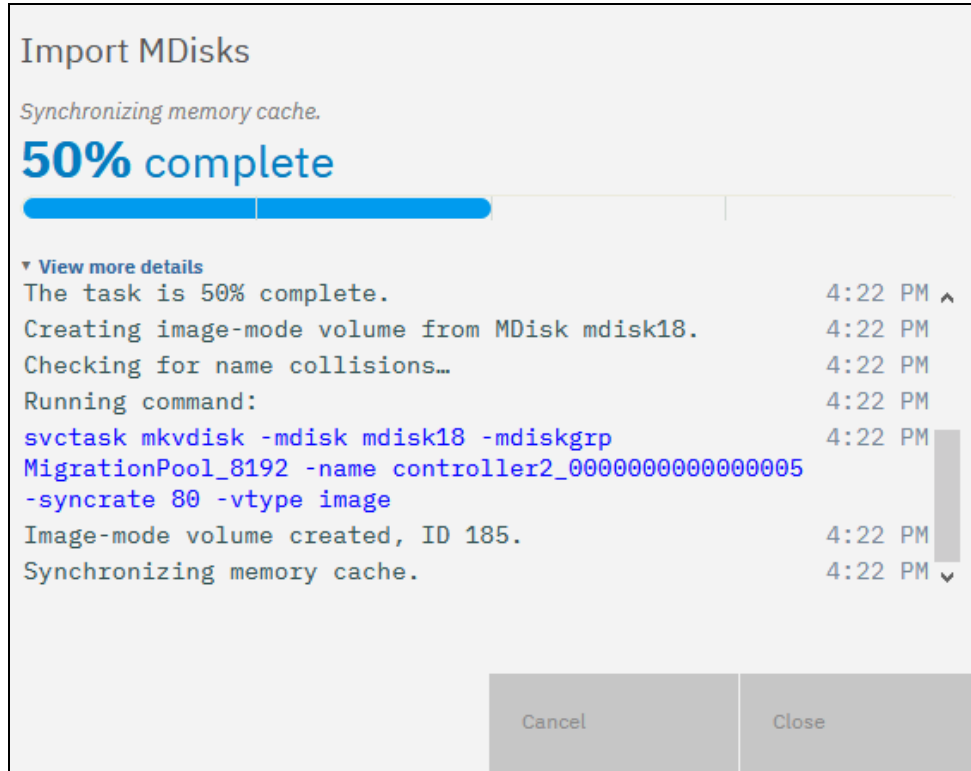

Figure 8-9 Storage Migration image mode volume creation detail
8. Click **Next** and wait for the MDisk to be imported. During this task, the system creates a new storage pool that is called MigrationPool_XXXX and adds the imported MDisk to the storage pool as image mode volumes with the default naming of {controller}_16digitSequenceNumber(controller2_0000000000000005)..., as shown in Figure 8-9.